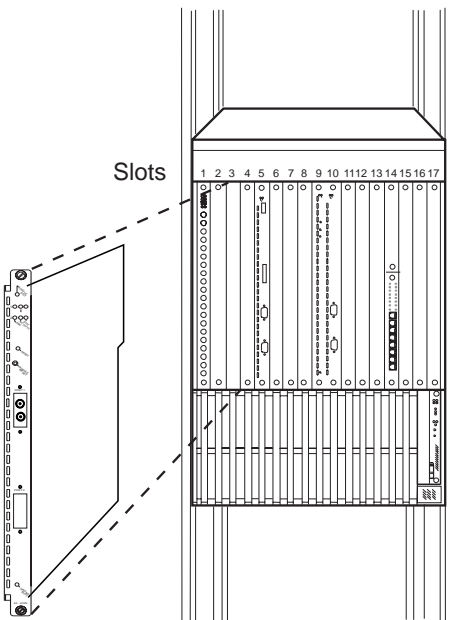
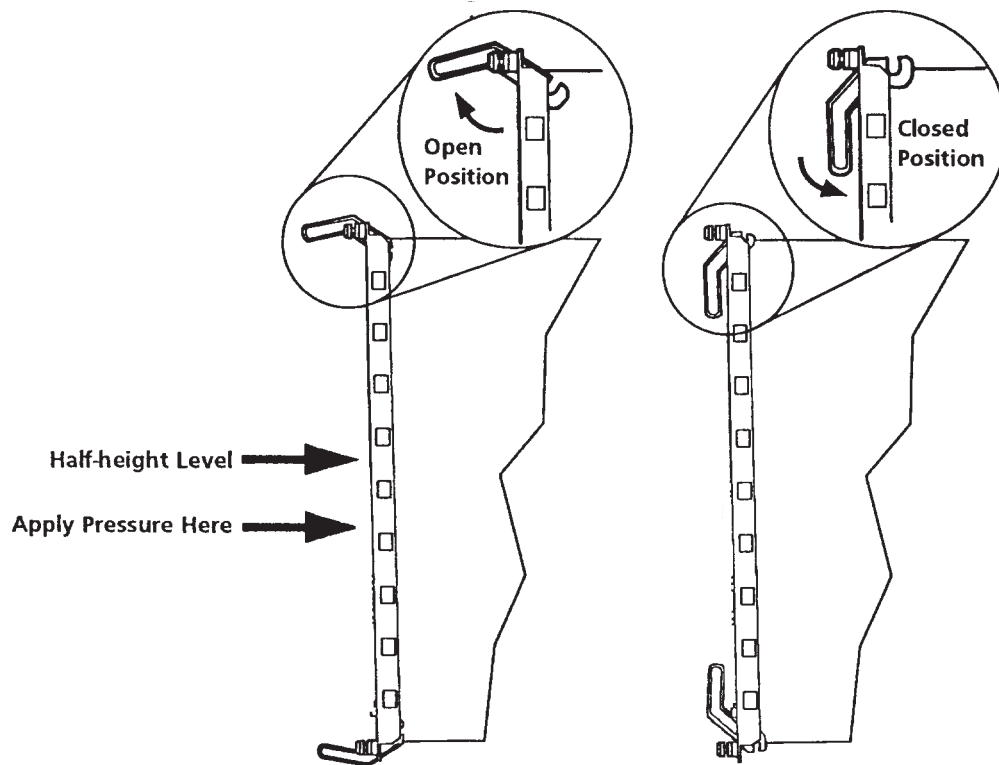

Figure 6. Inserting the Module in an 8260 Hub
Figure 7. 8260 Module Ejectors
3. Insert the A2-WAN module into the slot as shown in Figure 6, matching the top and bottom board guides as you slide the module cleanly into place (by pressing evenly on the top and bottom of the faceplate). Do not attempt to push the module all the way into the hub until you have verified that the top and bottom module ejectors are OPEN (see Figure 7 on page 33.)